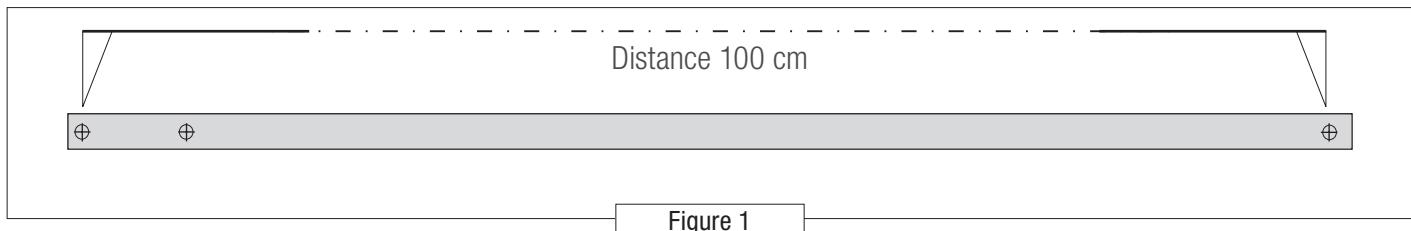

Figure 1
- Release the superior screw of the poles with the help of a screwdriver and a bit holder (see figure 1).